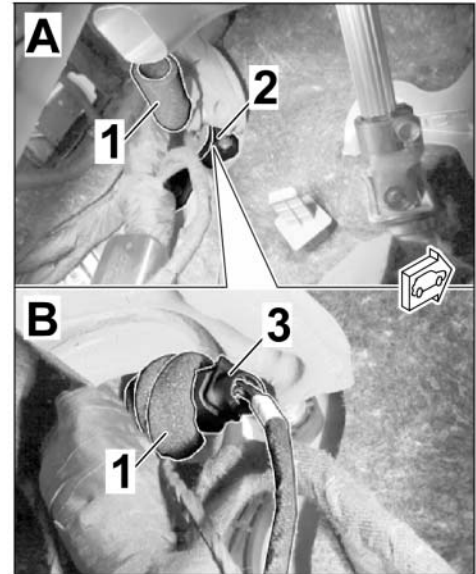

Figure 28
3.1.1 Expose the connection point (preparation = socket connector, 6-pin) in the passenger compartment of the vehicle, area of bulkhead grommet, A-pillar left (⇒ *Figure 28*).
3.1.3 Establish a connection between the plug connection preparation and the wire harness for the exhaust flaps (6-pin) ⇒ *Figure 28*.